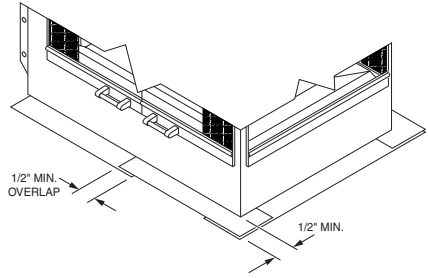
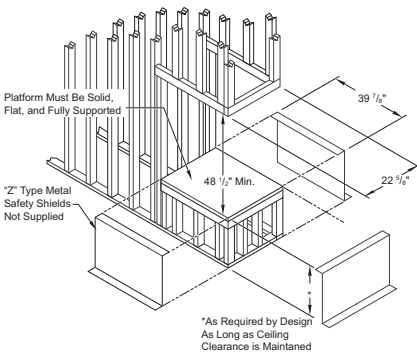
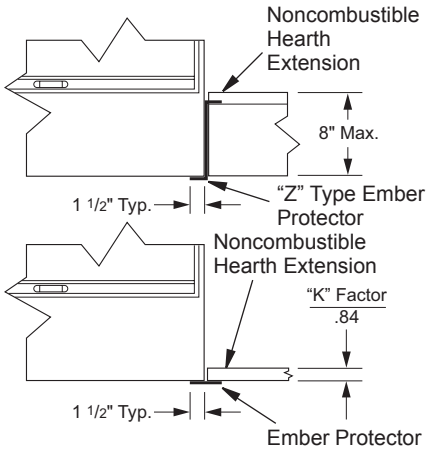

Figure 7 - Ember Protectors
Figure 6 - Framing Firebox with "Z" Type Ember Protectors
Figure 10 - Raised Hearth Extension
5. Before securing fireplace to prepared framing, ember protector (provided) must be placed between hearth extension (not supplied) and under bottom front edge of fireplace to protect against glowing embers (see Figure 7). If fireplace is to be installed on a raised platform, a Z-type ember protector (not supplied) must be fabricated to fit your required platform height (see Figure 6). The ember protector should be made of galvanized sheet metal (28 gauge minimum) to prevent corrosion.
If hearth extension is to be raised, a "Z" type ember protector must be used (see Figure 6 and Figure 10, page 6)